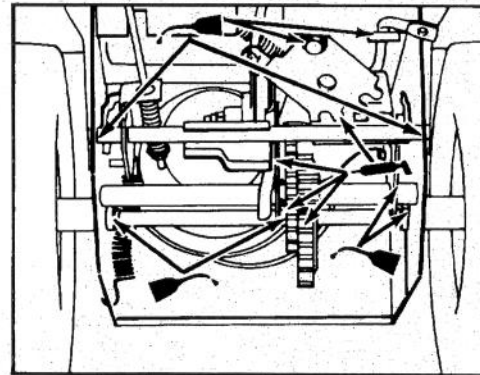

Figure 16
3. Lightly lubricate points shown with SAE 10W-40 oil or grease (Fig. 16). Wipe up any excess oil or grease.